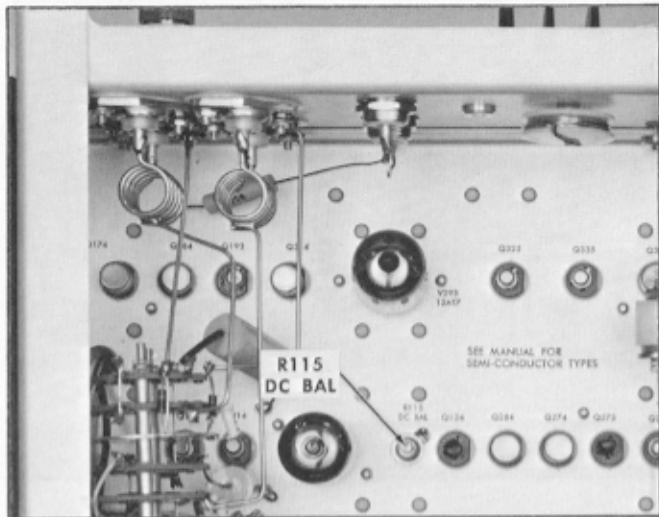

Fig. 6-8. Location of DC BAL adjustment.
- c. Adjust the DC BAL control (R115; see Fig. 6-8) for no vertical movement of the trace as (VERTICAL) VOLTS FULL SCALE switch is set to 0.2, to 0.5, and then returned to 1.0. Repeat this procedure, if necessary, to check that the adjustment is made properly.